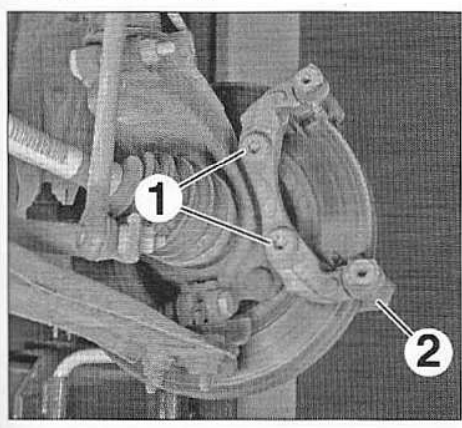

FIG.5
- les vis (1) (Fig.5),
- le support d'étrier (2),